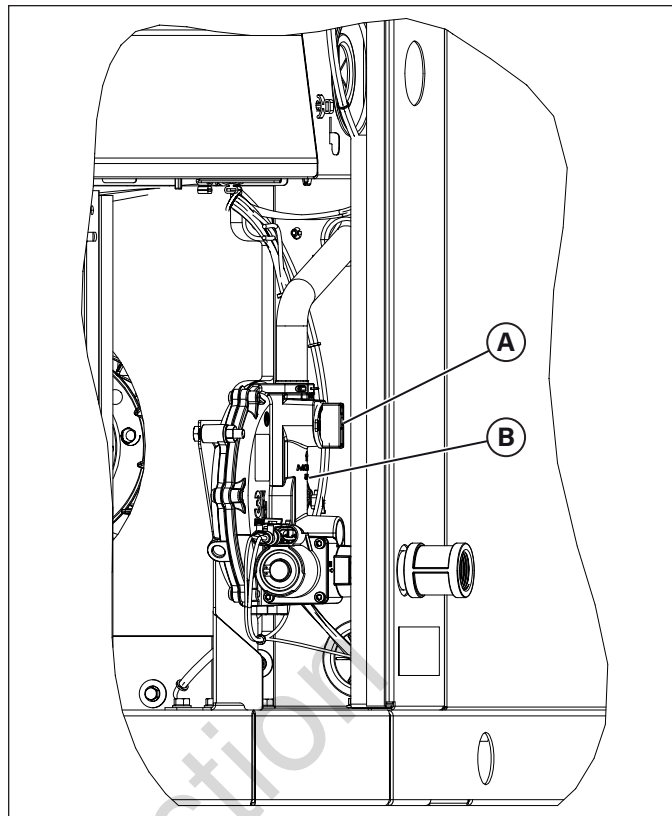

Figure 10
8. Find the fuel selector valve (A) on top of the fuel regulator (B). See Figure 10.
- A. For LP, rotate the lever (C) on the fuel selector valve until LP is aligned with "OUT" on the fuel regulator.